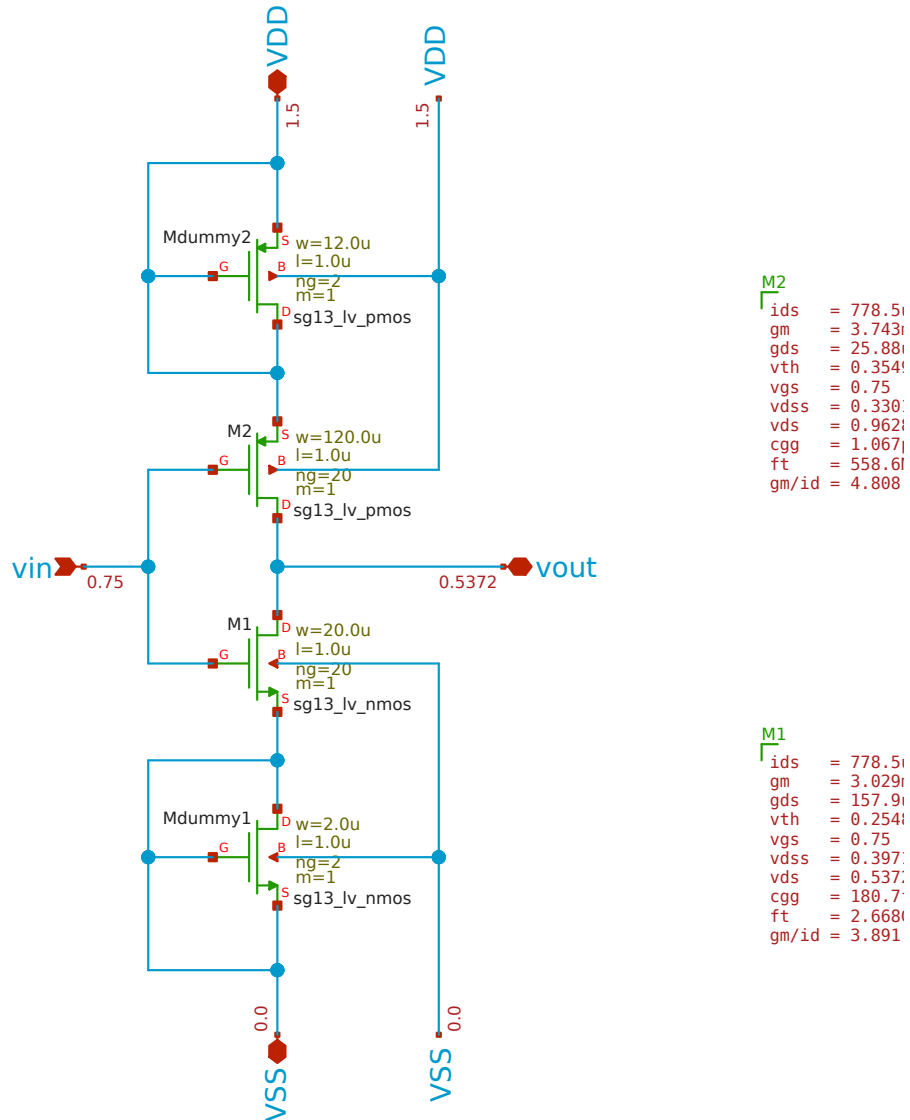

Figure 5: The finished `inverter` schematic in Xschem, with dummy transistors and operating-point annotations.
We now draw the schematic shown in Figure 5 step by step. The reference is inverter.sch.
6. **Annotate (optional).** Place `annotate_fet_params.sym` next to M_1 and M_2 and set `ref=M1` and `ref=M2`. After a simulation, these display the operating-point parameters of the devices directly in the schematic (as visible in Figure 5).